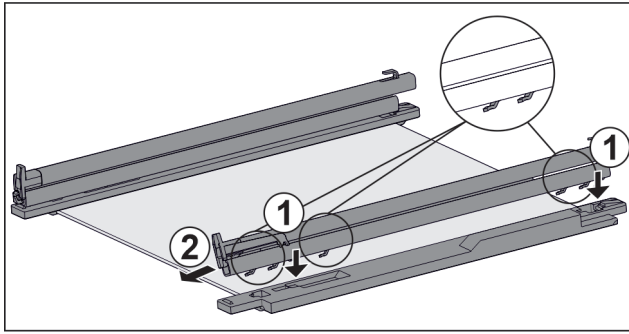

Fig. 120 Glass shelf with rails and retaining parts
- ▶ Place rail hooks onto the openings of the **left** retaining part. Fig. 120 (1)
- ▶ Push rail forwards. Fig. 120 (2)
- ▶ Place rail hooks onto the openings of the **right** retaining part. Fig. 120 (1)